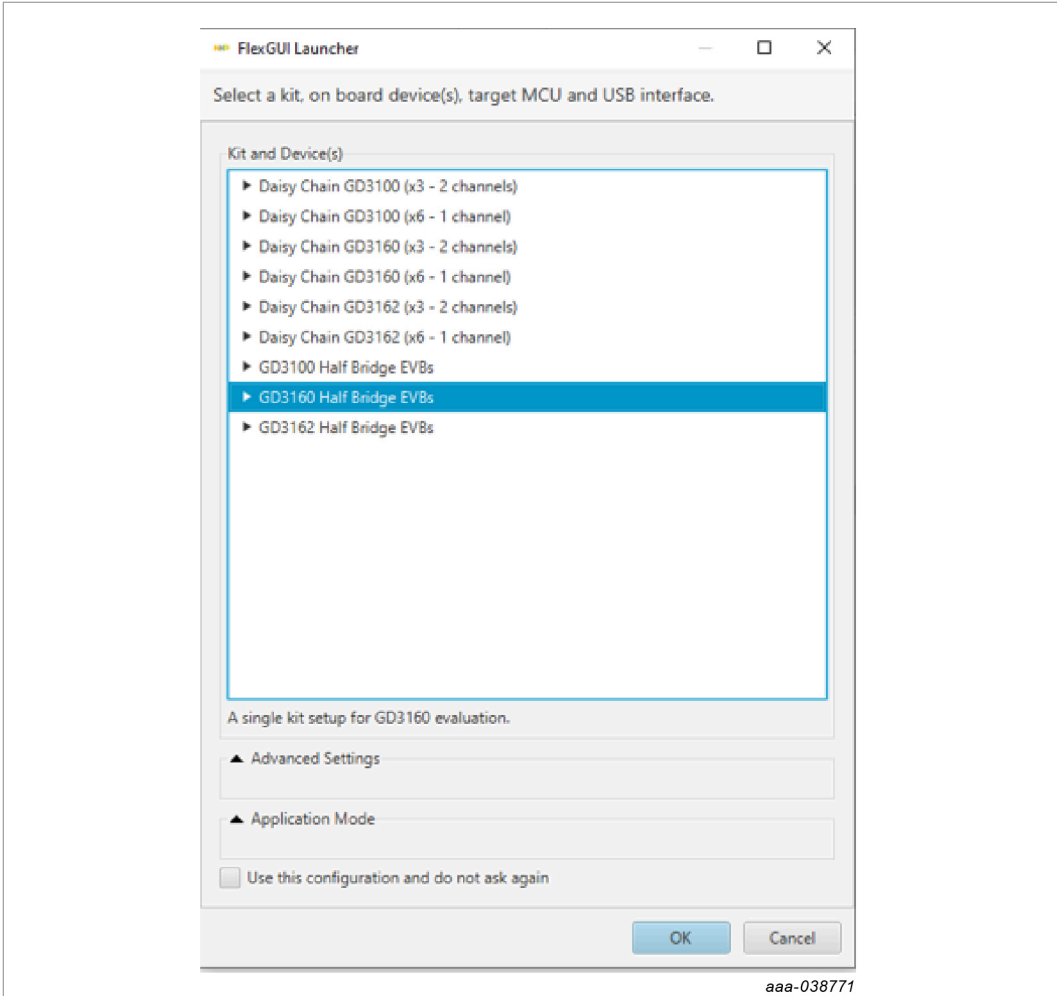

Figure 13. Kit selection
A way to check quickly that the microcode is programmed and the board is functioning properly, is to plug the KL25Z into the computer, open FlexGUI, and verify that the software version at the bottom is 6.4 or later (see Figure 13).
SPI messages can be realized graphically or in hexadecimal format. CSB is selectable to address one or both GD31xx on the board via daisy chain. See Figure 13 to Figure 32 for FlexGUI for GD31xx internal register read and write access.
- When you start the application, Figure 13 allows you to select the target application board, feature set (standard or daisy chain), target MCU, and USB interface. Leave all settings as shown.